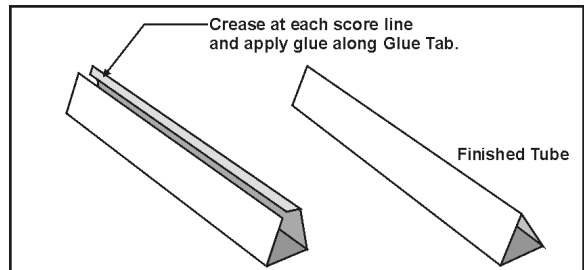

Figure 2
2. Referring to **Figure 2**, crease the Body Tube along these score lines. Apply a film of glue along the full length of the Glue Tab and complete your Body Tube by gluing this Tab to the inside of the other edge of the Body Tube. Your finished tube should look like a long triangular tube as seen in the right of Figure 2.